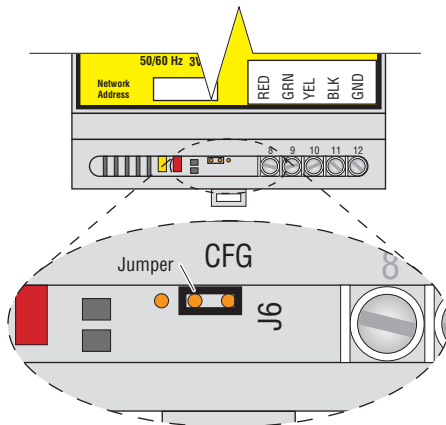

Figure 7a. Configuration Jumper in Configuration Position
- Place the TTSIM configuration jumper in the CFG position, as shown in Figure 7a.